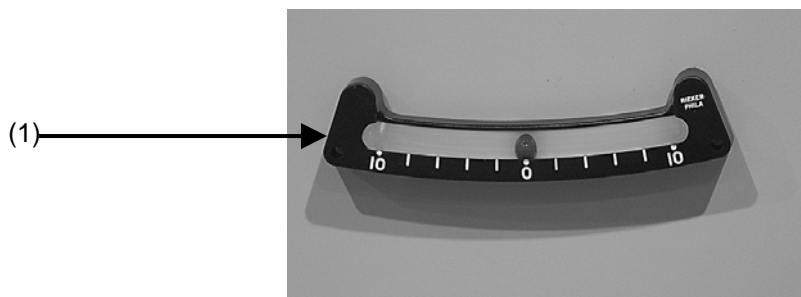

Figure 2-11. Inclinometer
Once container has been placed on ground, ensure it is level. Container is equipped with two inclinometers (1) (Fig. 2-11), one to left of personnel door and one on left sidewall of container.